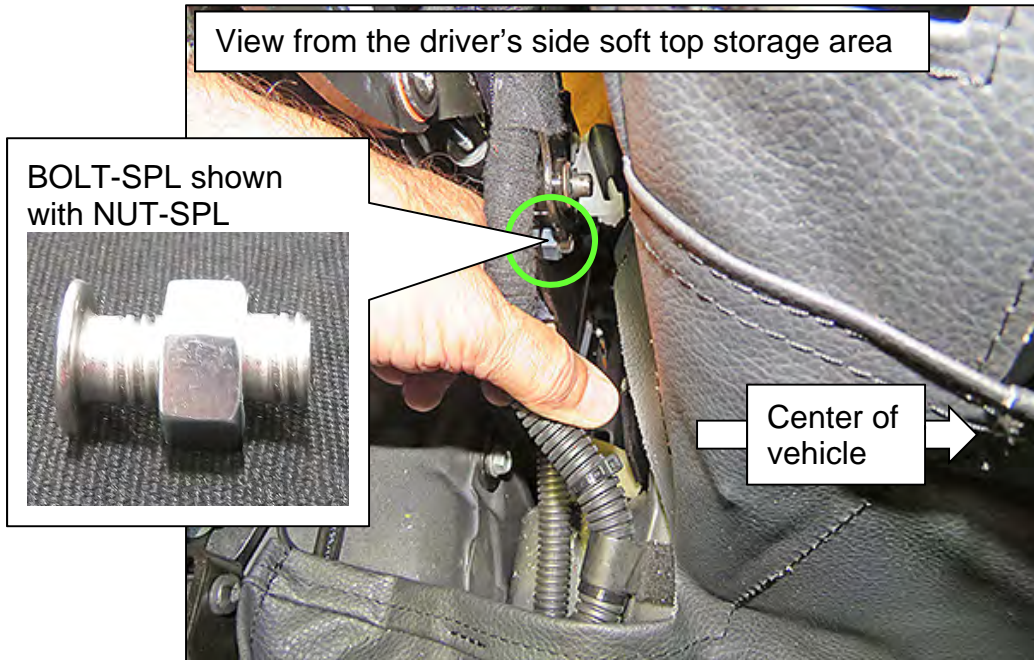
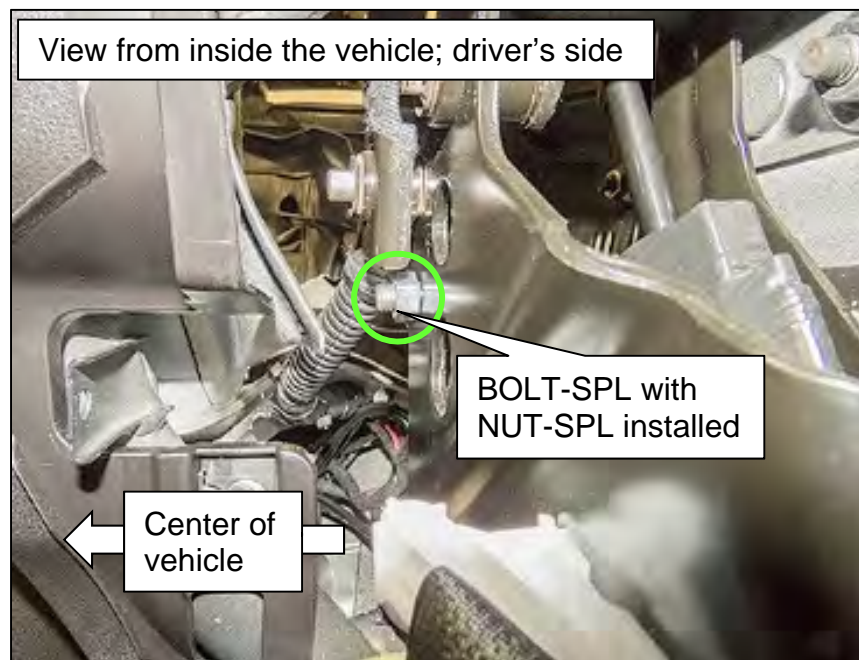

Figure 54
Figure 55
- Insert bolt (BOLT-SPL) so that the threads face the middle of the vehicle (Figure 54 and Figure 55).
61. Thread one (1) nut (NUT-SPL) onto BOLT-SPL.